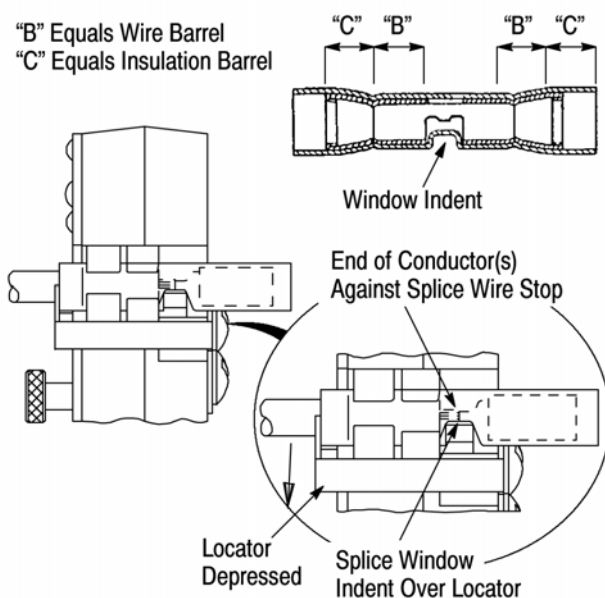

Figure 5
2. Depress the locator. Position the splice in the crimping chamber so that window indent of the splice seats over the locator. See Figure 5.